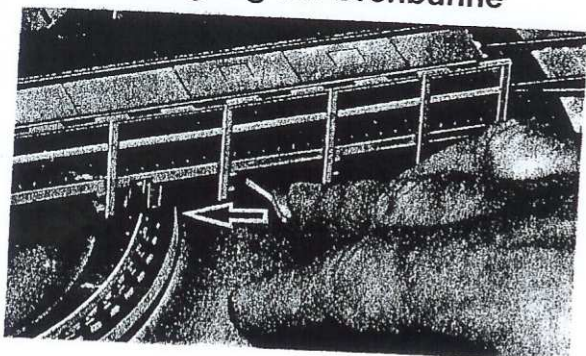
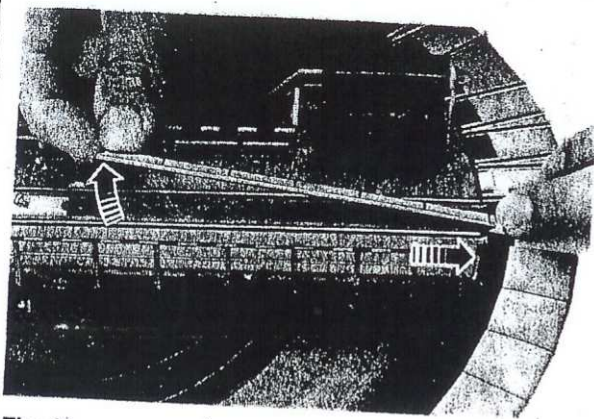
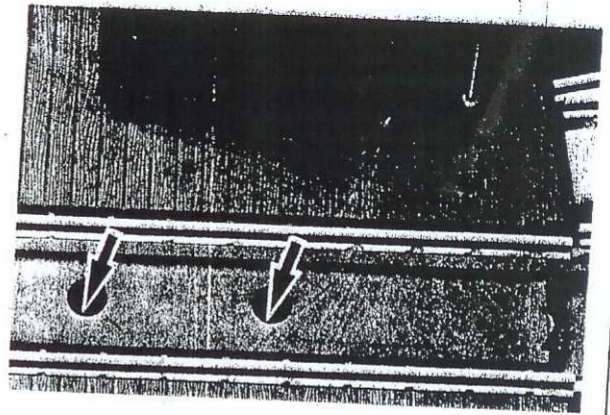
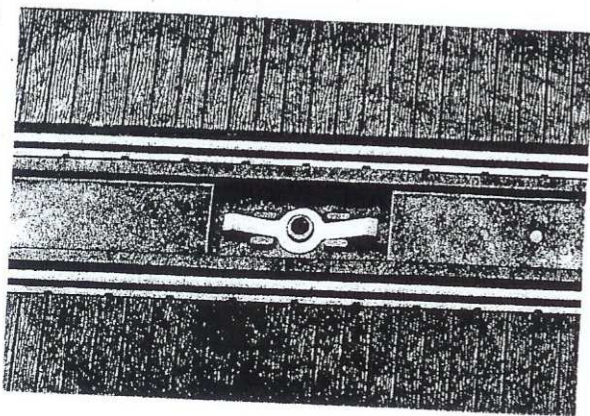

Fig. 8
Fig. 11
Fig. 12
Fig. 13
**Betätigen der Drehbühne von Hand siehe Fig. 8 und Fig. 9.**
Um die Lager des Antriebmotors ölen zu können, muß die Gitterabdeckung vor dem Maschinenhaus abgehoben werden. Dazu müssen zunächst zwei gegenüberliegende Teilstücke am Grubenrand ausgebaut werden (siehe Fig. 7). Jetzt wird die Brücke entsprechend Fig. 8 von Hand auf die beiden Lücken gestellt und mit einem Schraubenzieher die Schraube zwischen den Schienen der Bühne entfernt.
Die Gitterabdeckung vor dem Maschinenhaus wird in Schraubenhöhe einseitig angehoben und in Richtung Grubenrand zurückgeschoben. Damit löst sich die Abdeckung aus ihrer Rasterung und läßt sich herausnehmen. **Vorsicht**, Kontaktfeder unterhalb der Schraube nicht verlieren und beim Zusammenbau wieder richtig einsetzen (Fig. 13).
**Rotating the turntable by hand, see fig. 8 und 9.**
**Rotating the turntable by hand:** Opposite the motor housing, under the turning table, is a small black lever. By pressing the lever towards the centre, the drive gear wheel is withdrawn from the teeth in the outer drive ring releasing the table so that it can be moved manually in the desired direction. When the lever is released the gear wheel is again enmeshed with the outer-ring. Ensure, however, that the rotating tracks are lined up with the exit tracks (Fig. 8). Should the turntable not operate, when pressing the switch 6909, simply press the lever slightly to ensure the gear wheel is firmly seated in the drive ring, which will then start it moving. It will then stop at the next track again (Fig. 9).
**Oiling the motor:** For lubricating the bearings of the drive motor, the grille cover in front of the engine room must be taken off. To do this, two opposite parts of the pit must first be removed (see fig. 7). Now the bridge is placed according to fig. 8 by hand onto the two gaps and the screw situated between the rails of the stage removed by means of a screwdriver (Fig. 10).
The grille cover is now lifted up to one side and pushed back in direction of the pit border. By this, the grille cover unlocks and can be taken off (Fig. 11). Attention! Do not misplace the contact spring situated below the screw and refit correctly when reassembling (Fig. 13). Through the two holes in front of the engine house, one drop oil is to be applied to the bearings marked by arrows (Attention! Do not apply too much oil) (Fig. 12).
**Dismantling the table:** If the rotary platform does not start running after having actuated the hand lever, it must be dismantled. For this, proceed as already described for oiling the engine. After having removed the two covers, the bridge can be lifted out of the pit. Clean the contact paths beside the pivot and the contact points (Fig. 13). For reassembling, proceed in reversed sequence. In the unfortunate case of a damaged part, please contact your supplier.
**Manœuvre de la plaque tournante à la main:** En face de la cabine, sous le tablier du pont tournant, se trouve un levier. Lorsqu'on pousse sur ce levier vers le centre du pont, on dégage l'engrenage d'entraînement et on peut alors faire pivoter le pont tournant dans le sens désiré. Dès qu'on lâche le levier, les engrenages se bloquent à nouveau. Il faut veiller à ce que les voies du pont correspondent à ce moment avec un rail de sortie (fig. 8). Si, en manœuvrant le poste de commande 6909, le pont ne bougeait pas, il faut appuyer légèrement sur le levier en direction du bord de la plaque tournante afin de réengager les engrenages (fig. 9).
**Graissage du moteur:** Afin de lubrifier le moteur du pont tournant, il faut enlever la plaque striée située devant la cabine. Pour cela, il faut démonter deux secteurs se faisant face au bord de la fosse (voir fig. 7). La fig. 8 montre comment il faut faire tourner le pont à la main pour amener ses 2 extrémités en face des secteurs manquants. Ensuite on dévisse les vis se trouvant entre les rails du pont (fig. 10). En soulevant légèrement la tôle striée se trouvant devant la cabine on peut alors la glisser vers l'extérieur. Ceci dégage la plaque striée et permet de l'enlever (fig. 11). Attention! ne pas perdre le ressort de contact se trouvant sous la vis et veiller à le replacer correctement lors du remontage (fig. 13). Il faut alors déposer 1 goutte d'huile aux endroits indiqués par des flèches. (Attention! il ne faut pas mettre trop d'huile!) (fig. 12).
**Démontage du pont tournant:** Si le pont tournant ne se met pas en mouvement après avoir manœuvré la manette, il faut procéder au démontage. Celui-ci s'effectue de la même manière que pour le graissage du moteur. Après avoir enlevé les secteurs, le pont peut être sorti de la fosse. Il faut ensuite nettoyer à l'essence les rails de contact et les frotteurs situés près du centre de la plaque tournante (fig. 13). Le remontage s'effectue évidemment en sens inverse.
**Aansluitingen: Motoraansluiting van de brug.** De 3-delige snoeren in de kleuren rood, geel, grijs moeten met de overeenkomstige snoeren van de schakelaars verbonden worden, b. v. boven de klemplaat 6941. De zwarte B en witte A draden van de schakelaar 6909 moeten met de wisselstroomaansluiting van de trafo verbonden worden (aansluitwaarde 12-14 V 0,5 A). **Bediening van de draaischijf met de hand zie fig. 8 en 9.**
De draaischijf is buiten het bereik van de in te bouwen deelstukken te brengen. Nu kunnen de afdekplaten door het terugdrukken van de draaischijf naar boven eruit getrokken worden en op de oprijrails geplaatst worden. Elke oprijrail is tegenover een stootblok of weer op een oprijrail te plaatsen (zie Fig. 8) naar boven eruit getrokken worden en op de oprijrails geplaatst worden. Elke oprijrail is tegenover een stootblok of weer op een oprijrail te plaatsen (zie Fig. 8) naar boven eruit getrokken worden en op de oprijrails geplaatst worden.
**Handbediening van de draaischijf:** Tegenover het machinehuis is onder de draaischijf bij de aandrijving een hefboom aangebracht. Door de hefboom en deze gelijktijdig in de richting van de draaischijf te houden, komt het aandrijfwiel uit de vertanding van de draaikuil, zodat de draaischijf in de gewenste richting kan worden verstuurd. Na het loslaten van de hefboom komt het aandrijfwiel weer in de vertanding van de draaikuil, zodat de draaischijf in de tegenovergestelde richting kan worden verstuurd. Aan te sluiten rail (Fig. 8). Zou ondanks bediening van de schakelaar 6909 de aandrijving klemmen of niet lopen, dan kan door even de hefboom in de richting van de draaikuilrand te drukken de draaischijf in bedrijf gezet worden. Deze gaat dan de volgende railaansluiting weer stil staan (Fig. 9).
**Het oliën van de motor:** Om de lagers van de aandrijfmotor te kunnen oliën, moet de oosterafdekking van het motorhuis weggenomen worden. Daarvoor moeten allereerst twee tegenoverelkaar liggende delen aan de rand van de draaikuil verwijderd worden (zie fig. 7). Nu wordt de brug overeenkomstig fig. 8 met de hand op de beide openingen gedraaid en met behulp van een schroevendraaier worden de schroeven tussen de rails op de brug verwijderd. (Fig. 10). De roosterafdekking van het motorhuis wordt op schroefhoogte aan een kant opgelicht en in de richting van de draaikuilrand teruggeschoven. Daardoor komt de afdekking los uit de klemrand en kan men hem verwijderen (Fig. 11). Voorzichtig, de contactveer onder de schroef niet verliezen en bij de montage weer korrekt inbouwen (Fig. 13).
Door de gekenmerkte gaten in het motorhuis kan men de lagers oliën. (Voorzichtig! slechts een druppel is genoeg!) (Fig. 12).
**Manövrering för hand av vändskivan** se bild 8 och 9.
Mittemot maskinhuset sitter en handspak undertill på vridbryggan vid motorn. Genom att trycka samtidigt hålla spaken i riktning mot vridbryggans mitt släpper drivhjulet kuggarna i fördjupningen och vridbryggan kan ställas in i önskad riktning. När spaken släppes, griper kugghjulet åter i kuggarna. Beakta att anslutningsspåren stämmer med vändskivans spår (fig. 8). Skulle vändskivan vid manövrering med ställpult 6909 vara trög eller ej fungera, så startar den genom ett kort tryck på spaken mot fördjupningens kant. Den stannar vid nästa anslutningsspår (fig. 9).
För att kunna smörja motorns lager måste gallerplattorna framför maskinhuset lyftas bort. Dessutom måste två mittemot liggande delstycke vid smörjgropen tagas bort (se fig. 7). Nu installeras vridbryggan enligt fig. 8 för hand på de båda tomrummen och med en skruvmejsel lossas skruven på bryggan (fig. 10). Gallerplattan framför maskinhuset lyftes upp i ena kanten och skjutes mot smörjgropen. Så lossas plattan i sina rasten och kan tagas bort (fig. 11); försiktigt, så att kontaktfjädrer under skruven inte förloras och endast 1 droppe (fig. 12).
**Per la manovra a mano della piattaforma** vedi la fig. 8 e 9.
Per oliare i supporti del motorino occorre sollevare la copertura formata da piastrina striata che si trova davanti alla cabina, smontando prima due pezzi frontali della corona della fossa (vedi fig. 7). Il ponte come da fig. 8 viene spostato a mano su ambedue le aperture e poi staccato, svitando prima la vite che si trova tra le rotaie e il ponte girevole. La copertura che si trova davanti alla cabina va sollevata e spostata all'indietro nella direzione della corona della fossa, sganciandola così dal suo nottolino di arresto. Si farà attenzione a che non vadà perduta la molla di contatto che si trova al disotto della vite e che poi tutto sia rimesso a posto (fig. 13). Si lubrificerà con una sola goccia d'olio (non alimentare) nei due punti indicati dalla freccia (fig. 12).
Nel caso che il ponte non girasse, bisogna allora smontarlo seguendo le istruzioni date per la lubrificazione. Il ponte si stacca dopo aver tolto le coperture. Tutti i contatti elettrici e i perni devono venire puliti con cura con benzina (fig. 13).